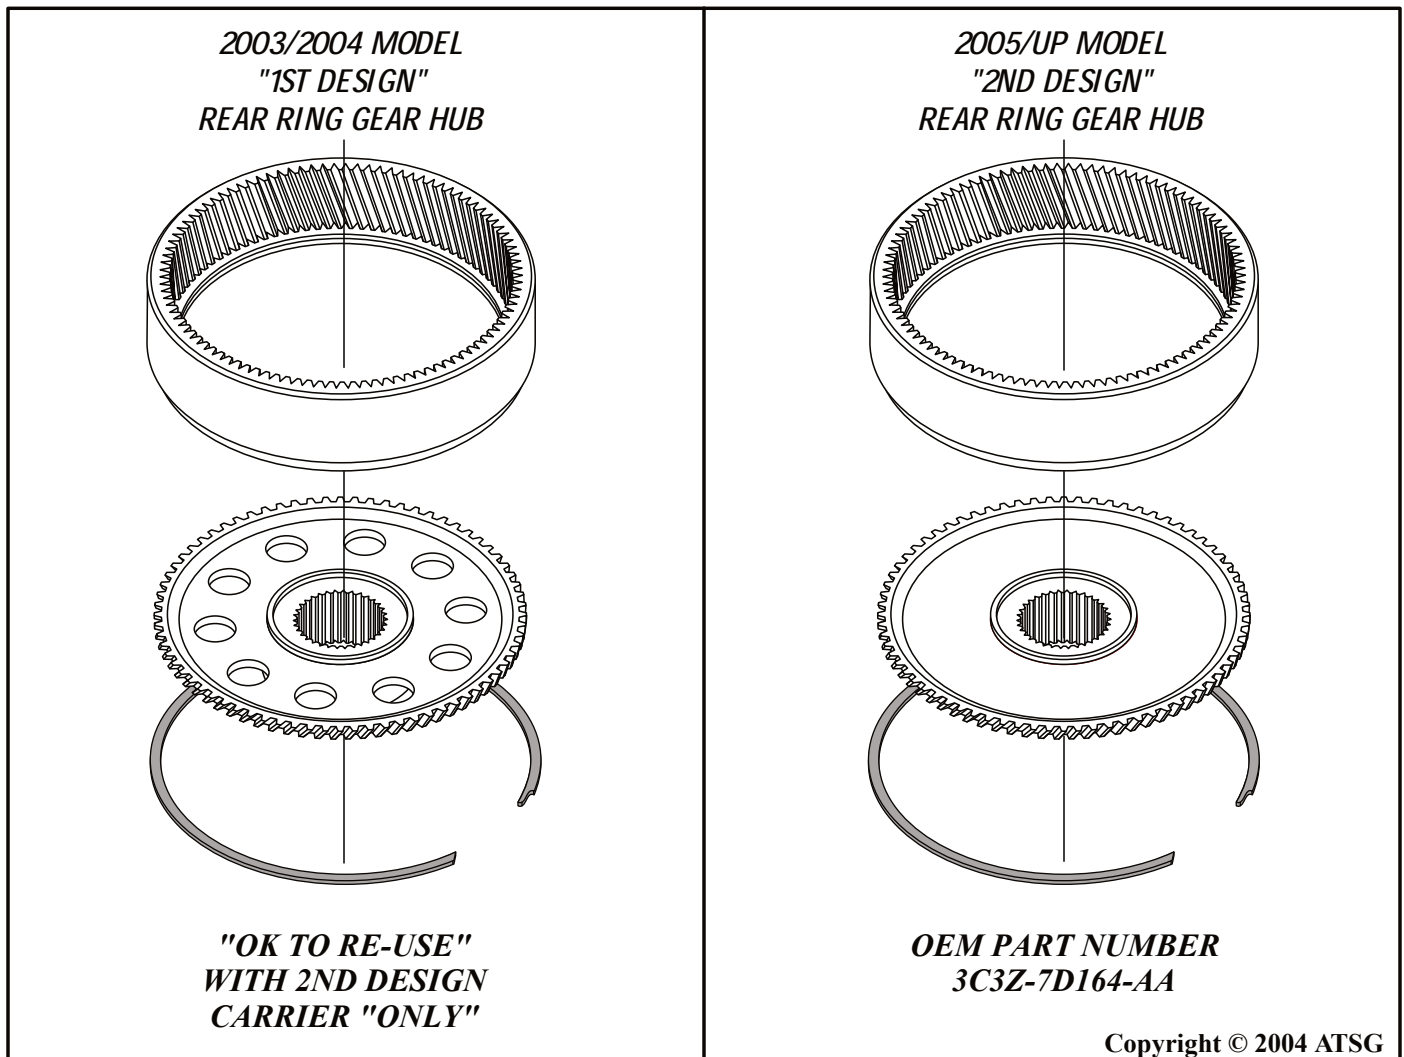

Figure 156
8. If necessary disassemble the rear planetary ring gear using Figure 156 as a guide.
Note: The rear planetary ring gear hub also received a design change for the 2005 model year. The new design has the holes removed from the center, as shown in Figure 156.